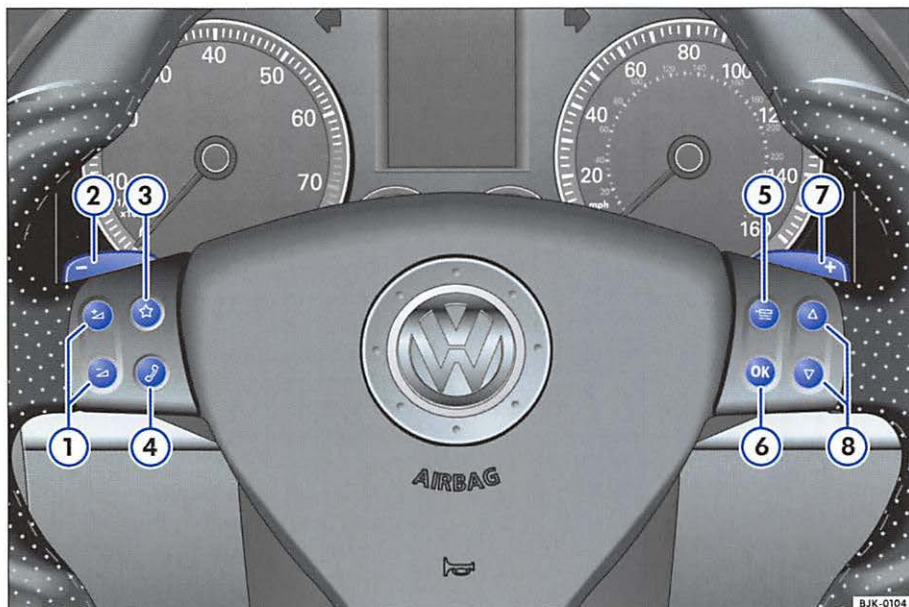
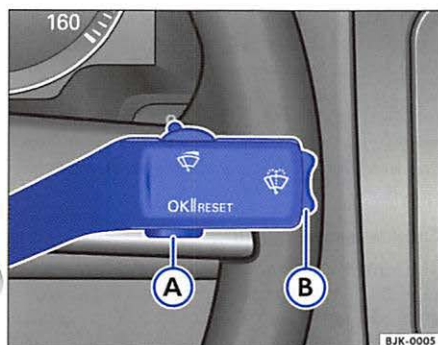

Fig. 1 Multi-function steering wheel with controls
Fig. 8 On the windshield wiper lever: Button **(A)** to select memory 1 or memory 2 and the rocker switch **(B)** to select and change the menus
The controls in the multi-function steering wheel **⇒fig. 1** work only when the ignition is switched on. Depending on your model some of the features shown in the illustration may not apply to your vehicle. Always ask your authorized Volkswagen dealer if you are not sure.
- From the main menu, select the **MFD** menu and press the **(OK)** button on the windshield wiper lever ⇒ **fig. 8 (A)**. Or
- Press button ⇒ **page 4, fig. 1 (5)** in the multi-function steering wheel ²⁾ until the MFD menu is displayed.
- With the ignition switched on, briefly press the button ⇒ **fig. 8 (A)** on the windshield wiper lever or the **(OK)** button on the multi-function steering wheel ⇒ **page 4, fig. 1 (6)** to toggle between memory 1 and memory 2.
You can switch between the following displays in the multi-function indicator (MFI) by pressing the rocker switch ⇒ **fig. 8 (B)** on the end of the windshield wiper lever or by pressing the buttons **(A)** or **(V)** ⇒ **page 4, fig. 1** on the multi-function steering wheel.
The speed warning can be set so you will see and hear a warning when you reach the desired speed. For example, this setting could be used to let you know if you exceed the posted speed limit. When you reach the desired speed, briefly press button ⇒ page 9, fig. 8  under the windshield wiper lever or, with the vehicle at a standstill, press button ⇒ page 4, fig. 1  in the multi-function steering wheel and then set the desired speed with buttons  or  ⇒ page 4, fig. 1. Press and hold the  button to erase the stored speed.